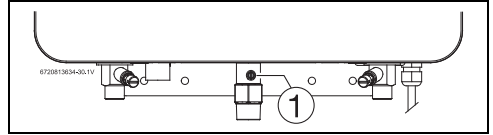

Fig. 32 Gas pressure test port
- ▶ Locate the inlet gas pressure test port (see Fig.32).
- ▶ Loosen the screw inside test port fitting (do not remove) and connect the manometer tube to the test port (see Fig. 32).